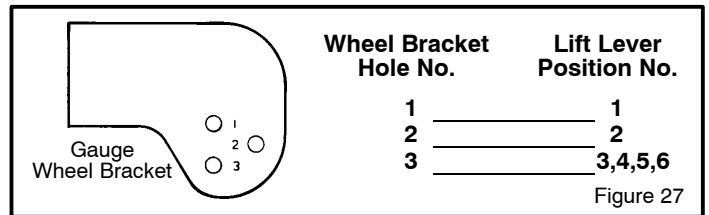

Figure 27
3. Look at each **gauge wheel bracket**. There are 3 holes in each bracket and a number next to each hole. The number for the height of cut position on the **lift lever** indicates the correct hole to use on each **gauge wheel bracket** (Figure 27).
4. Assemble the axle bolts to the **gauge wheel brackets** using the correct hole in the bracket as indicated (Figure 27).
**NOTE:** If the height of cut position is changed by the lift lever, you must move the gauge wheels to the correct hole (Figure 27) to keep a level height of cut.